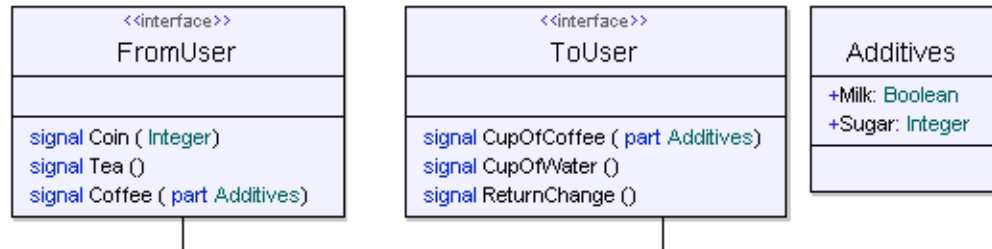

Figure 23: Class Additives
4. Select the signal **CupOfCoffee** in the Model View, drag it to **ToUser** interface symbol in the class diagram. Type in the parameter and declare it as a part. See Figure 23 on page 47.